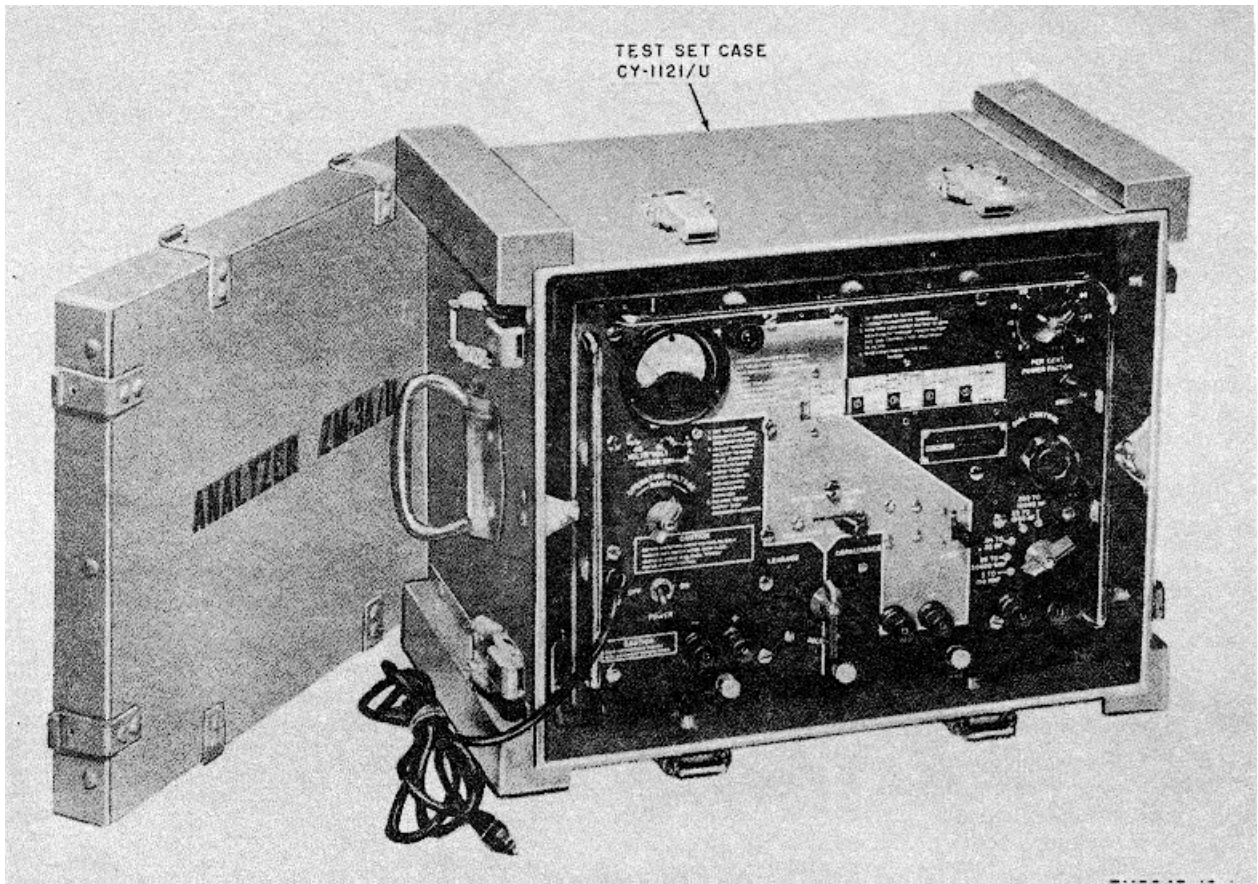

Figure 1. Analyzer ZM-3A/U, less running spares.
e. Throughout this manual, the major component (fig. 4) of Analyzer ZM-3(*)/U is referred to as analyzer. Test Set Case CY-1121/U (fig. 1) is referred to as case.
a. *Components* (fig. 1). The components of Analyzer ZM-3(*)/U are listed in the table below.
(fig. 1)